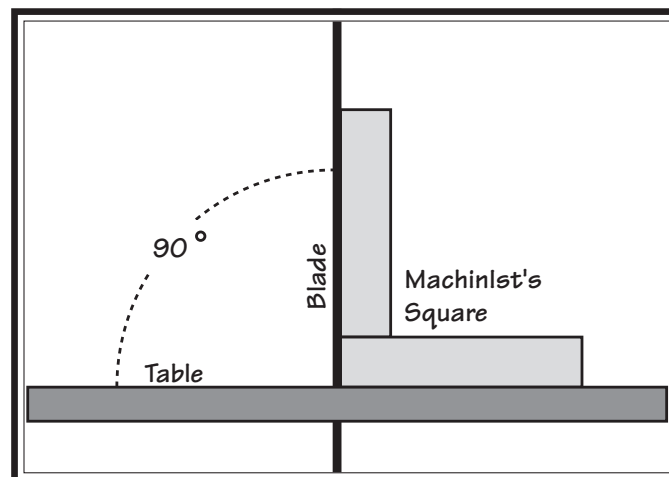

Figure 47. Checking that table is perpendicular to blade.
4. Place a machinist's square on the table and against the side of the blade, as shown in **Figure 47**.